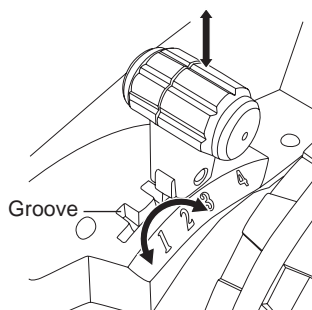

Fig. 20
1. Lift up the depth adjustment lever (12), meanwhile move it forward or backward to the desired position, and release it. Make sure it is well seated in the groove on the housing. (Fig.20).